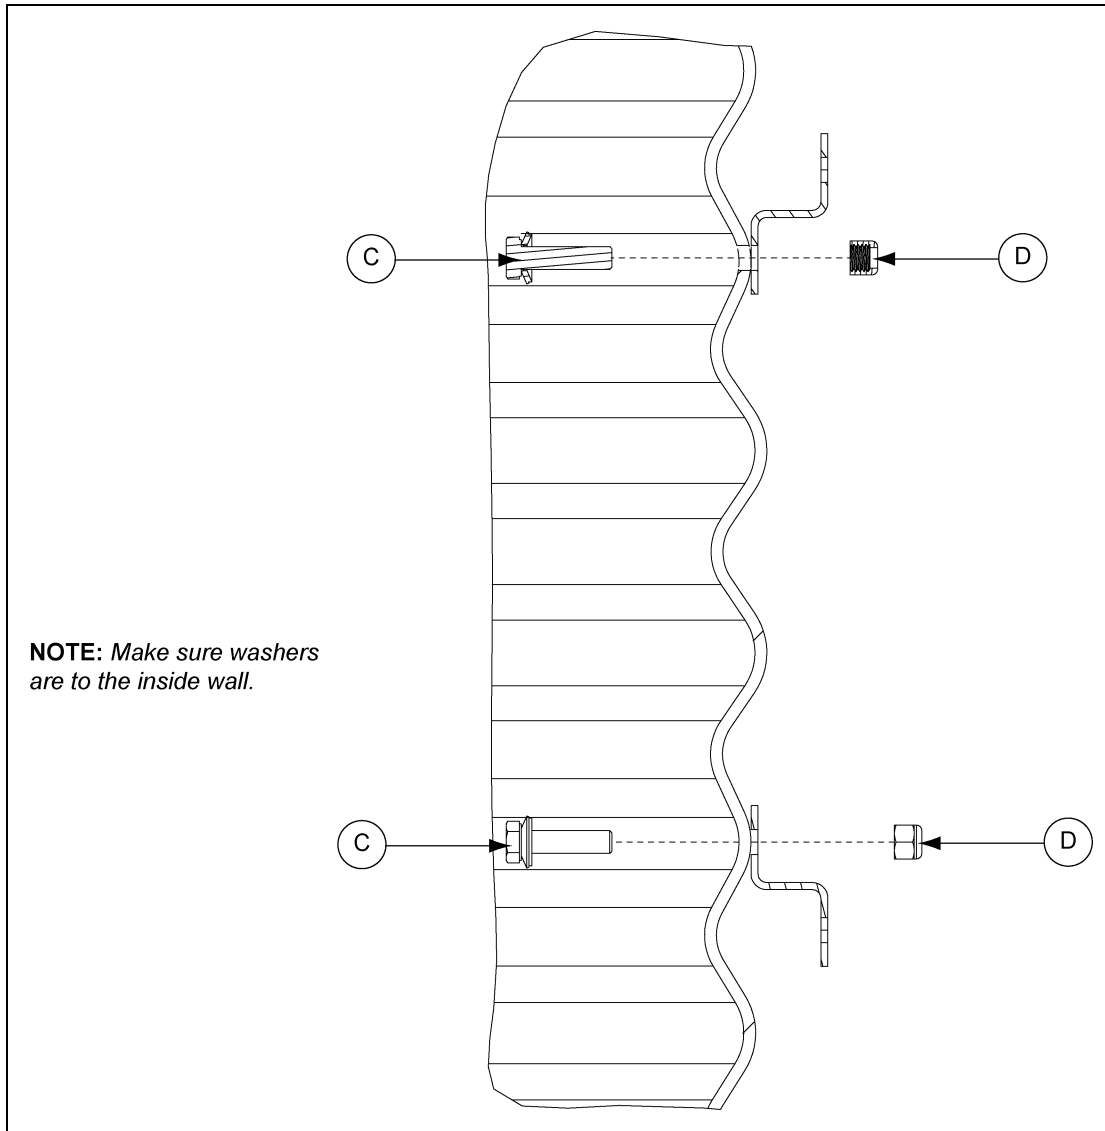

Figure 3B
7. Insert three (3) 5/16"-18 x 1-1/4" bolts (C) through the sidewall, washer to the inside of the sidewall sheet, through the two (2) brackets and fasten together with three (3) 5/16"-18 nylock nuts (D). (See Figure 3B.)